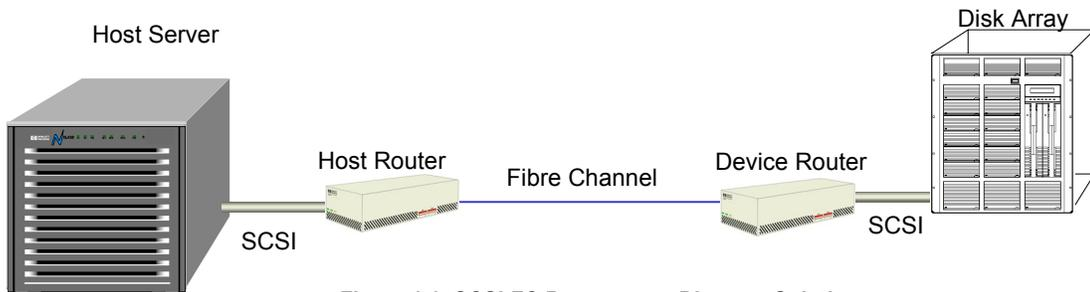

Figure 1-2. SCSI-FC Routers as a Distance Solution
- Figure 1-2. SCSI-FC Routers as a Distance Solution 2
As is shown in Figure 1-2, *SCSI-FC Routers as a Distance Solution*, the connection between the host router and the host and the connection between the device router and the target devices are both SCSI connections. The connection between the two routers, however, is maintained with Fibre Channel. This permits the host to be at a much greater distance from the target devices than if they were connected directly to one another via a SCSI connection.
1. Power on the SCSI device(s) (disks or tape drive) that will connect to the device router as seen in Figure 1-2.
1. Choose one of SCSI-FC Routers to be the device router, as defined in Section 1.2 and as shown in Figure 1-2. (Either router may be used as the device router.)
4. The configuration should now match the diagram in Figure 1-2.